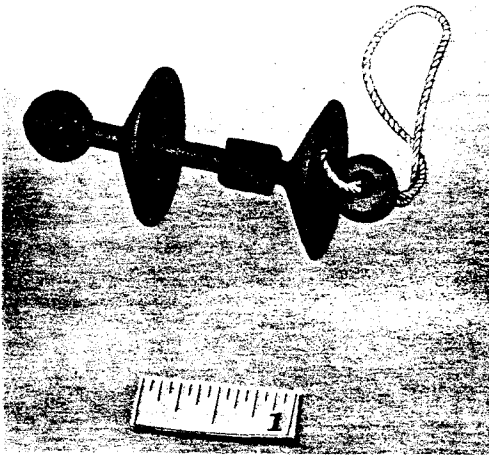

Fig. 4—Greenlee 690 Vacuum System
**6.02** To place the tape, set up the Greenlee 690 vacuum/blower (Fig. 4) at one end of a length of innerduct. At the opposite end, attach a Greenlee 610 rodding missile to the measuring tape and vacuum the tape into the innerduct. The vacuum/blower can then be moved to the next manhole where the innerduct is interrupted, or the innerduct can be cut at any intermediate manhole for the purpose of placing the tape, and the tape vacuumed into that length of innerduct. With this procedure, using manual assist where necessary, one continuous length of measuring tape can be used to measure distances up to the maximum length of the tape. When recording lengths for cable ordering purposes, allowances must be made for racking and surplus requirements at splice locations.